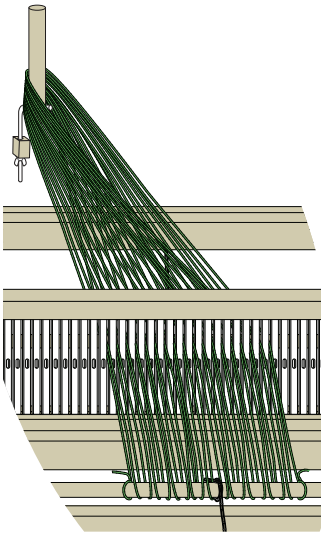
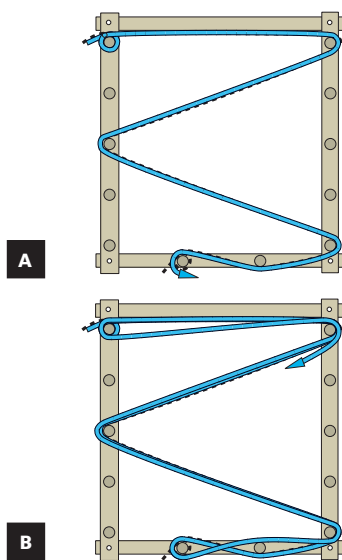
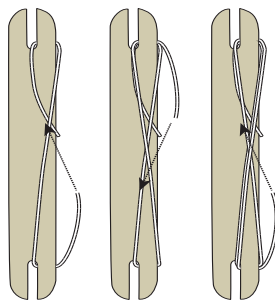

FIGURE 8: ALL SLOTS THREADED
FIGURE 13: MEASURE THE WARP
FIGURE 20: WIND A SHUTTLE
**Cross:** The figure 8 made at one end of the warp when measured on a warping board. It keeps the warp ends in order and helps prevent tangles.
8. Cut off the yarn from the ball or cone and tie to the back apron bar (Figure 8).
**4.** Tie the warp yarn to the starting peg. Follow the guide string to the cross pegs. Wind a figure 8 around these pegs, as in Figure 13—this forms the cross to keep the warp ends in order. Follow the guide string back to the starting peg.
5. Continue winding from the starting peg to the cross pegs and back, until the total number of warp ends are measured (Figure 13). Every loop around the starting peg equals 2 warp ends. Cut the yarn and tie it around the starting peg.
You will need a shuttle for weaving. A stick shuttle about the same width as your warp works well on the rigid heddle loom. Wind the weft yarn around the shuttle in a figure 8. You can wind along one edge or both edges of the shuttle (Figure 20).